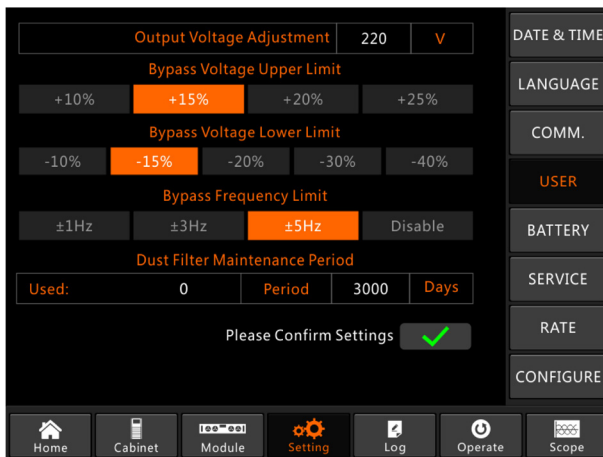

Fig. 73. User settings screen.
4. Keep the rest of the parameters of each UPS if there is no special requirement (keep the default settings), as shown in Fig. 73.